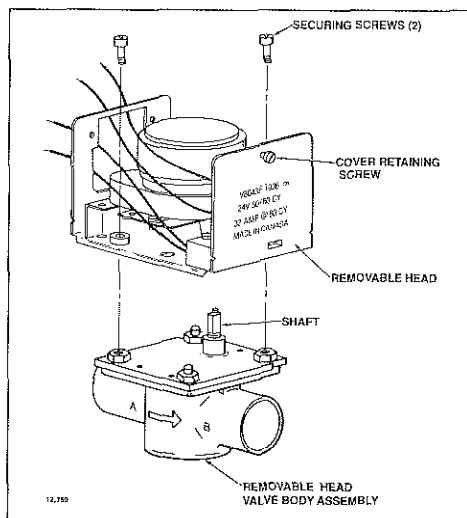

Fig. 4—Install new powerhead.
6. Install new powerhead (Fig. 4)---
- Remove the 2 screws securing the powerhead to the valve body (Fig. 4).
4. Install the new powerhead (see Fig. 4)---